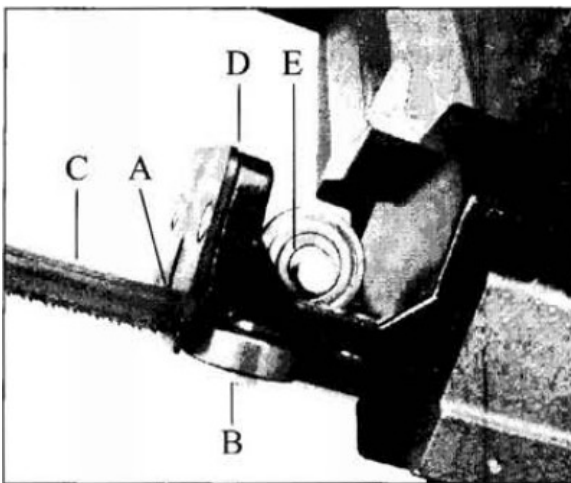

Figure 6
3. Remove the cover plate attached to the face of the right guide bracket (D) (see Fig.6)
4. The inside guide bearing (A) (see fig.6) is mounted to a fixed shaft and cannot be adjusted. The outside guide bearing (B) is mounted on an eccentric shaft and should be adjusted so that the sides of the blade (C) just contact the guide bearings (A) and (B). To adjust, loosen screw (E) until the proper adjustment is made. Then tighten screw (E).